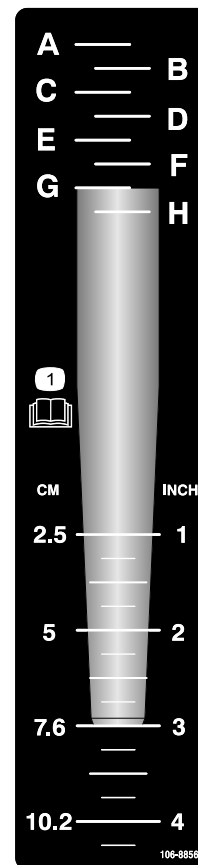

Figure 23
1. Lay the desired tine onto the depth decal while aligning the tine tip with the desired aeration depth as shown in Figure 23.
2. Determine the letter setting aligned with the mounting end of the tine (Figure 23). Adjust the depth control to the corresponding letter on the decal.